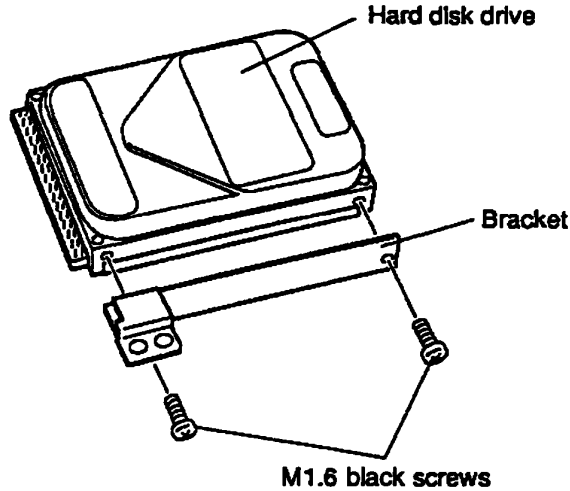

Figure 4-18 Removing the Hard Disk Bracket
5. Remove the two M1.6 black screws securing the hard disk bracket and remove the bracket (Figure 4-18).
1. Secure the bracket with the two M1.6 black screws (Figure 4-18).